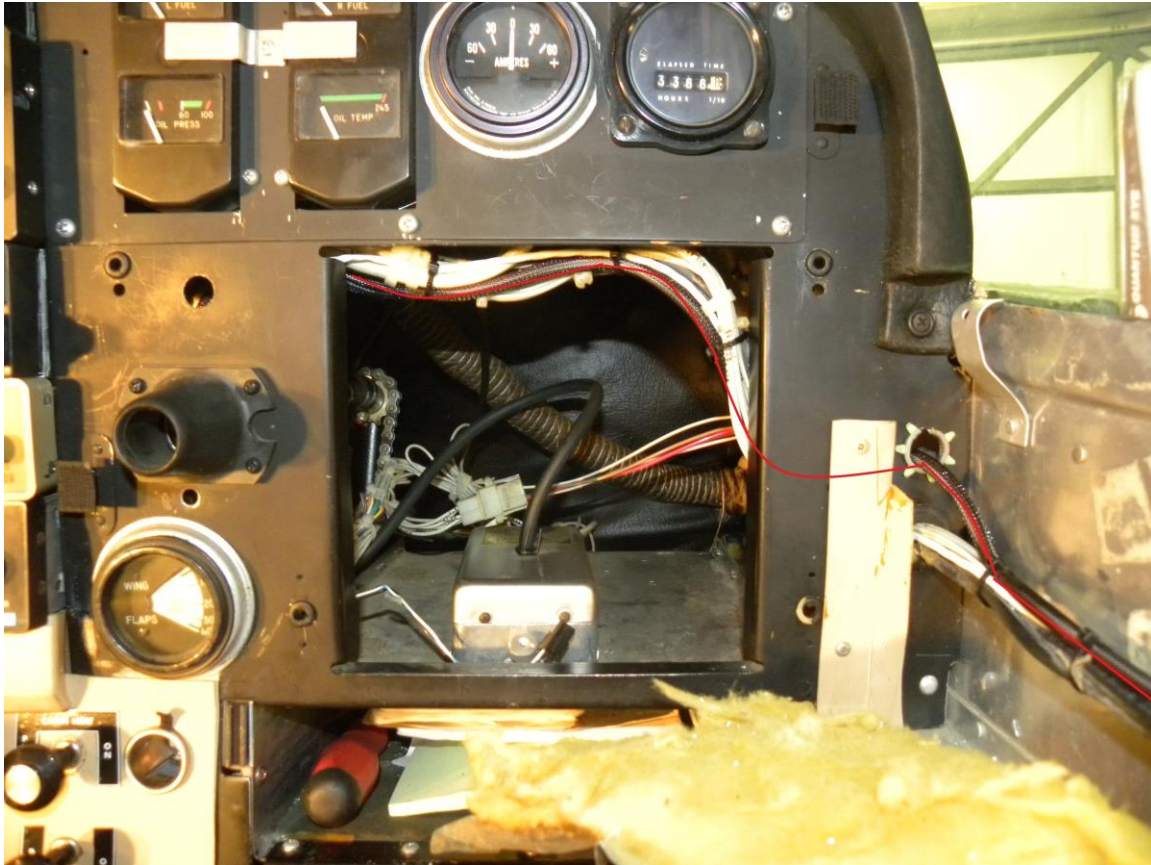

Figure 4-7
8. Begin routing roll servo harness as shown in Figure 4-7. The red line shows the approximate path the harness should take.